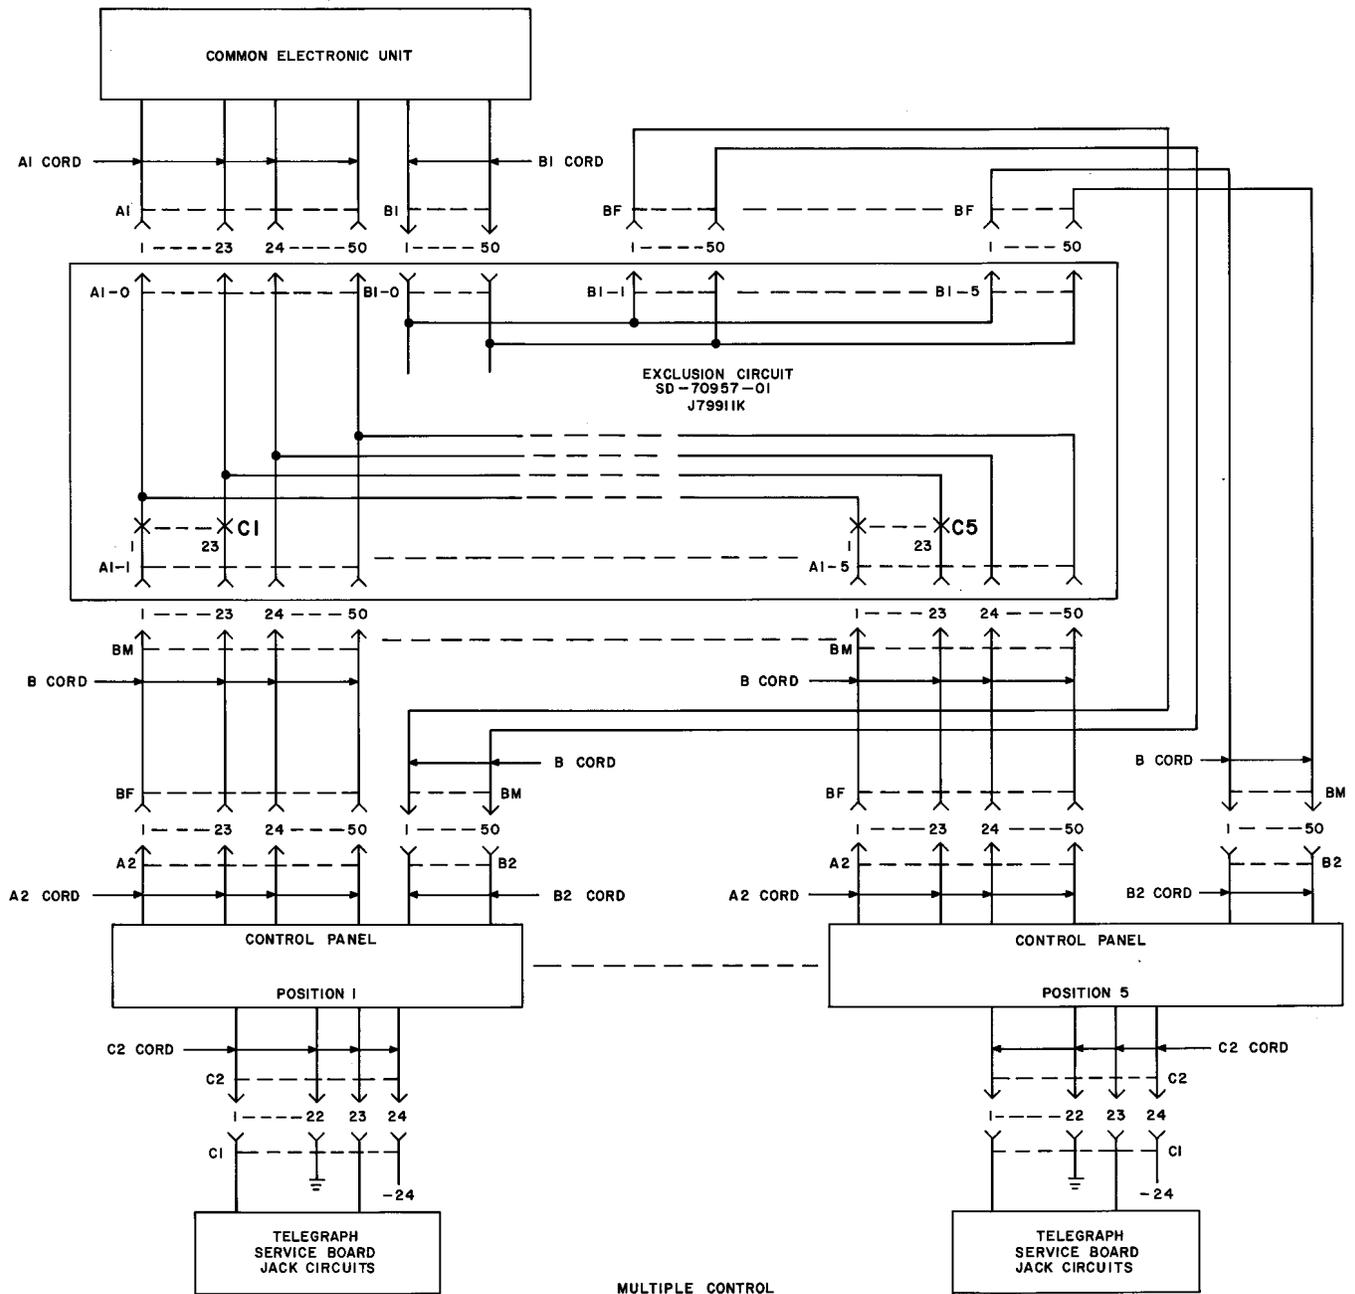

Fig. 3—Exclusion Unit Type 911K—Typical Installation
**2.02** Twelve 50-pin connectors are mounted on the Exclusion Unit 911K. Six connectors are designated A1-0 through A1-5 and six connectors are designated B1-0 through B1-5. The connectors designated A1-0 and B1-0 are for connections to the common unit. The connectors designated A1-1 through A1-5 and B1-1 through B1-5 are for connection to the control panels that require selective access to the common unit. The "A" series connectors provide 23 switched circuits, 2 control and indicator circuits, and 25 multiple circuits. The "B" series connectors provide 50 multiple circuits (Fig. 3).